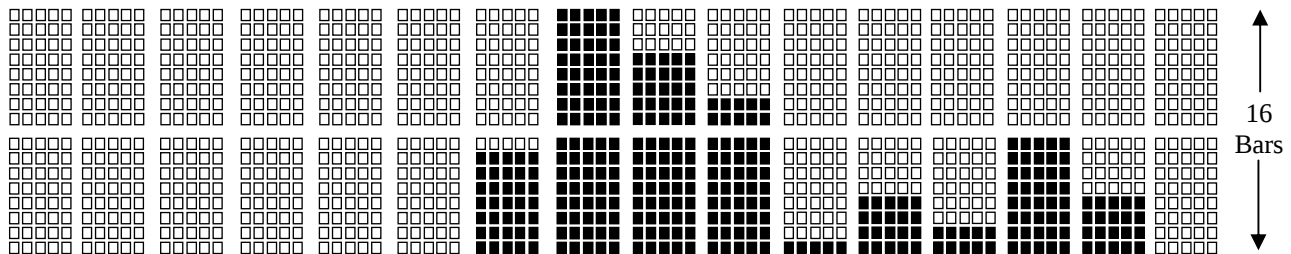

Figure 3-6, Bargraphs with 16x2 character displays
Figure 3-6 also shows that a 16x2-character display can produce bar graphs with up to 16 vertical bars (using 2 characters high). In Figure 3-6, we started the bar graph on the 7th column leaving 6 characters on each line for other information (the name of the graph or other).
- val** is the number of vertical bars you want to have turned on (a number between 0 to 8 in this example). Note that in Figure 3-6, we actually used two vertical characters to 'extend' the height of the bargraph.
The code below shows how we displayed the bars in Figure 3-6. Here, we assume that your application code filled the table `VertBarTbl[]` with the desired values to display. Each entry in the table needs to be a number between 0 and 16, inclusively. A higher value would display only 16 bars.